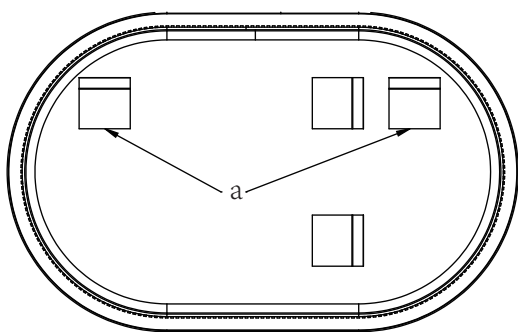

Fig. 1
1. Make certain the wall is solid, and use the flexible rule to measure the distance between two hangers on the back of the mirror ("a" in Fig. 1).